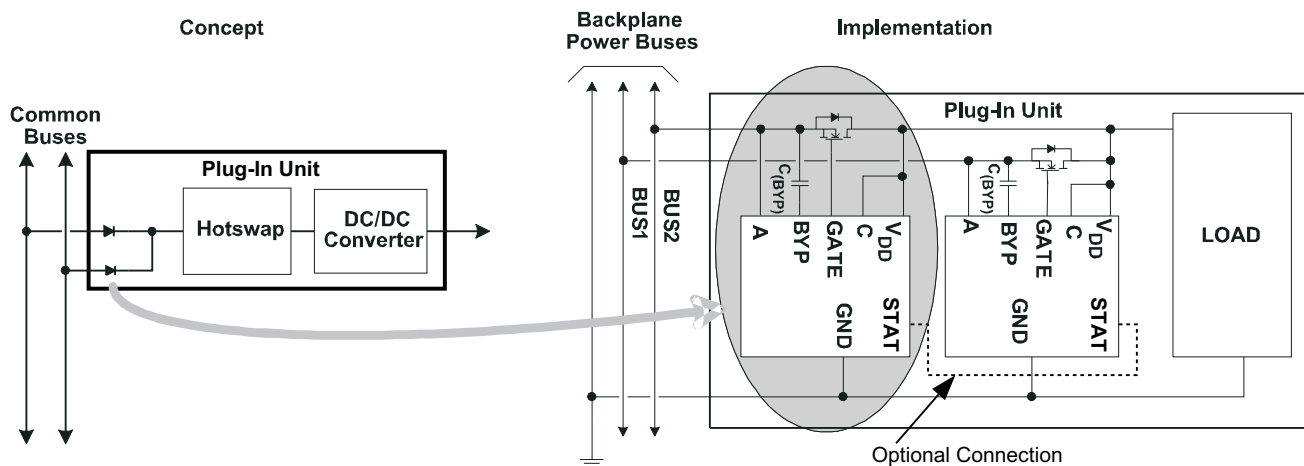

Figure 13. Example ORing of Input Power Buses
**STAT:** STAT is a multifunction pin. STAT outputs the status of the GATE pin drive. The internal weak pull-up pulls STAT to  $V_{DD}$  when GATE is being driven high and  $V_{(GATE)}$  is 0.4 V greater than  $V_{(A)}$ . If STAT is externally pulled below  $V_{DD}/2$  while the pin would otherwise be high, the turnoff threshold is shifted negative (~157 mV) from the RSET programmed value. Interconnecting the STAT pins of redundant devices, in systems that normally have both devices on, reduces the likelihood that both devices will turn off in the event of a transient. See the *FUNCTIONAL BLOCK DIAGRAM, INPUT ORing and STAT*, and Figure 13.
The TPS2410/11 is designed to allow output ORing in N+1 power supply applications (see Figure 12) and input-power bus ORing in redundant source applications (see Figure 13). The TPS2410/11 and external MOSFET emulate a discrete diode to perform this unidirectional power combining function. The advantage to this emulation is lower forward voltage drop and the ability to tune operation.
Figure 13 shows how redundant buses may be ORed to a common point to achieve higher reliability. It is possible to have both MOSFETs ON at once if the bus voltages are matched, or the combination of tolerance and regulation causes both TPS2410/11 circuits to see a forward voltage. The ORing MOSFET disconnects the lower-voltage bus, protecting the remaining bus from potential overload by a fault.
Interconnecting STAT pins can be used to reduce the occurrence of both MOSFETs turning off in topologies such as Figure 13 that normally have both MOSFETs ON. This might occur when there is a noise transient on both buses due to fans cycling on and off, or an ac mains disturbance. If both MOSFETs are ON, and then an ORing circuit turns OFF, the second ORing circuit's fast turnoff threshold is shifted negative by 157 mV from the RSET programmed value because STAT is pulled low. This reduces the probability that it too will turn off as the arrival of the transient, and speed of both circuits, is unlikely to be matched. Maintaining at least one device ON avoids both a bus transient due to the current interruption, and momentary downstream hotswap overload when the ORing recovers. The function of STAT is not limited to the topology of Figure 13 and may be used to dynamically shift the fast turnoff threshold. The internal circuit shown in the *FUNCTIONAL BLOCK DIAGRAM* will assist in designing these applications.